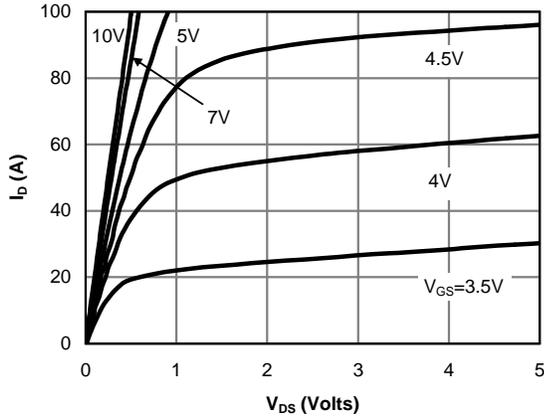

Figure 1: On-Region Characteristics (Note E)
E. The static characteristics in Figures 1 to 6 are obtained using  $<30\mu\text{s}$  pulses, duty cycle 0.5% max.